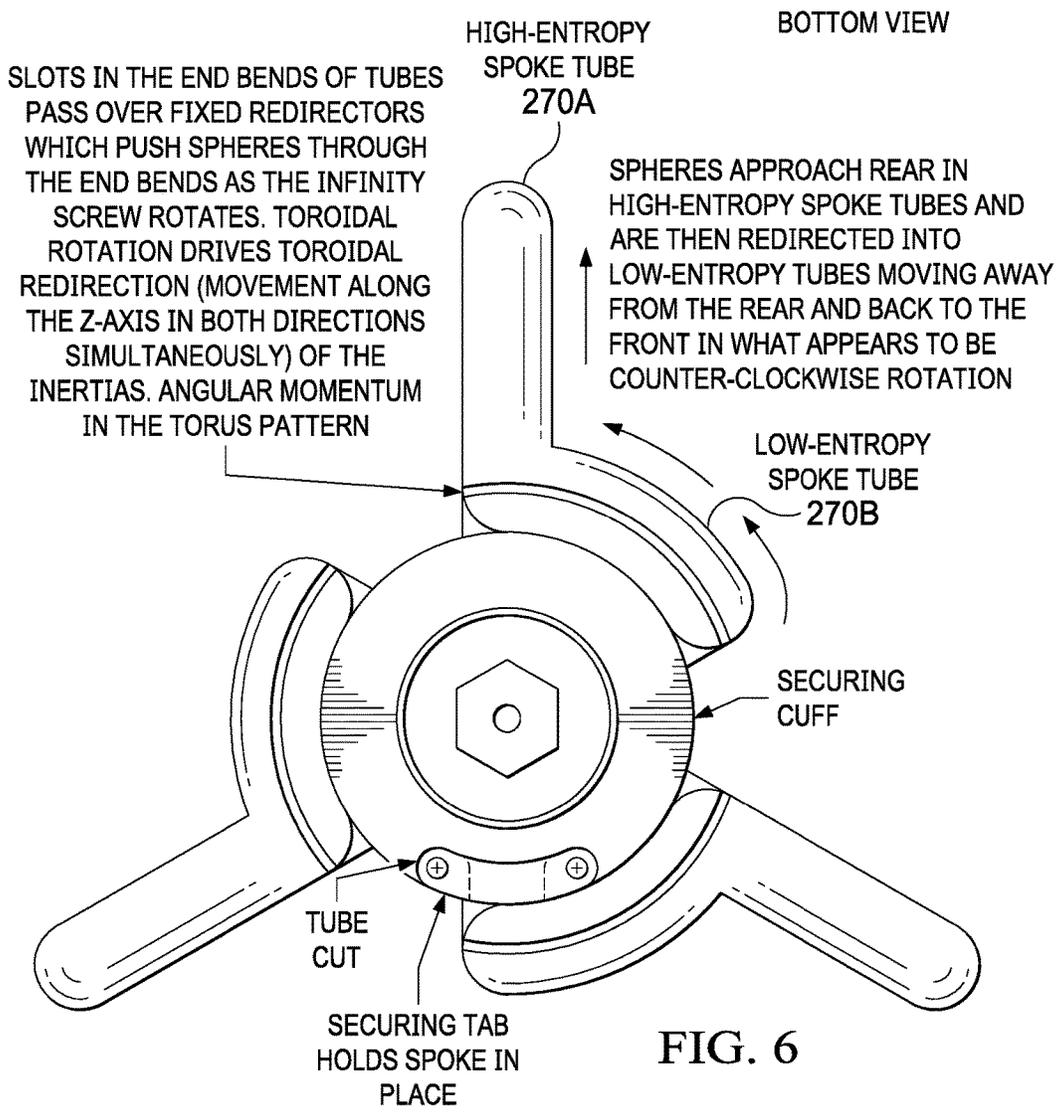

FIG. 6
**[0014]** FIG. 6 shows a bottom view of the InfinityScrew, radial end bracket removed;